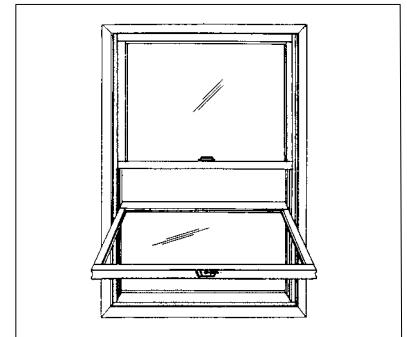

Figure 7
- Level the front edge of the sash. See figure 7.